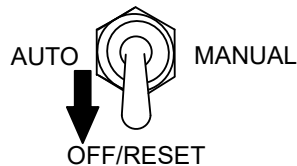

Figure 21. Auto Start/Stop Switch (Off/Reset Position)
5. Place the **Auto Start/Stop switch** (Figure 21) in the **OFF/RESET** position.